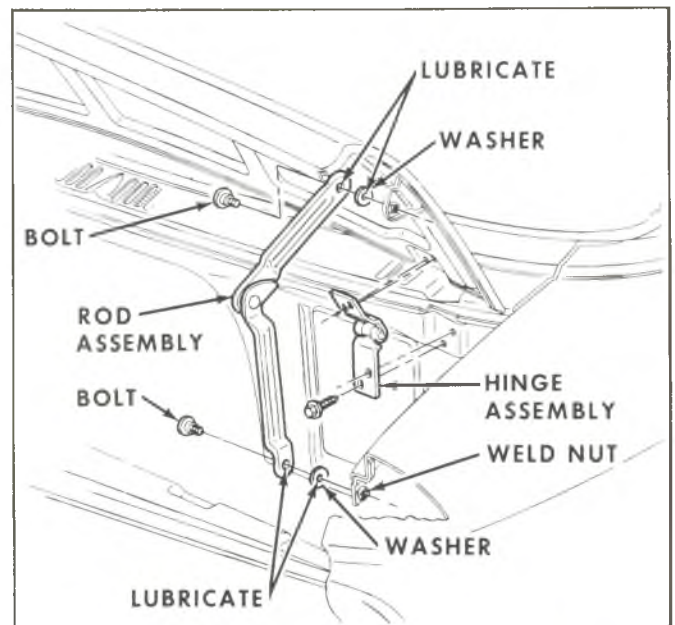

Fig. 5—Hood Hinge and Rod Assembly—G Series
### Hood Hinge (Fig. 5)
3. Remove rod assembly (see fig. 5).